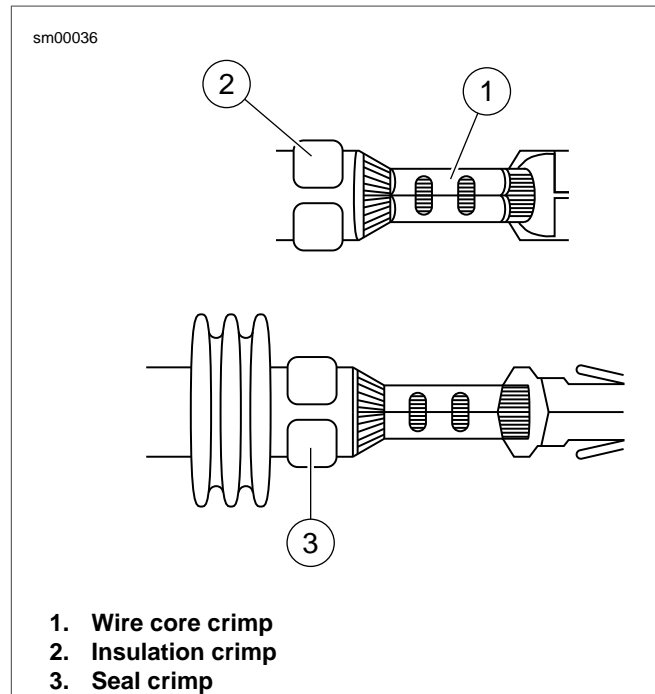

Figure A-40. Metri-Pack Connector: Inspect Core and Insulation/Seal Crimps
1. See Figure A-40. Identify the correct die for the insulation/seal crimp (2).
1. See Figure A-40. Inspect the wire core crimp (1). The tails should be folded in on the wire core without any distortion or excess wire strands.
2. Inspect the insulation (2) or seal (3) crimp. The tails of the terminal should be wrapped around the insulation without distortion.